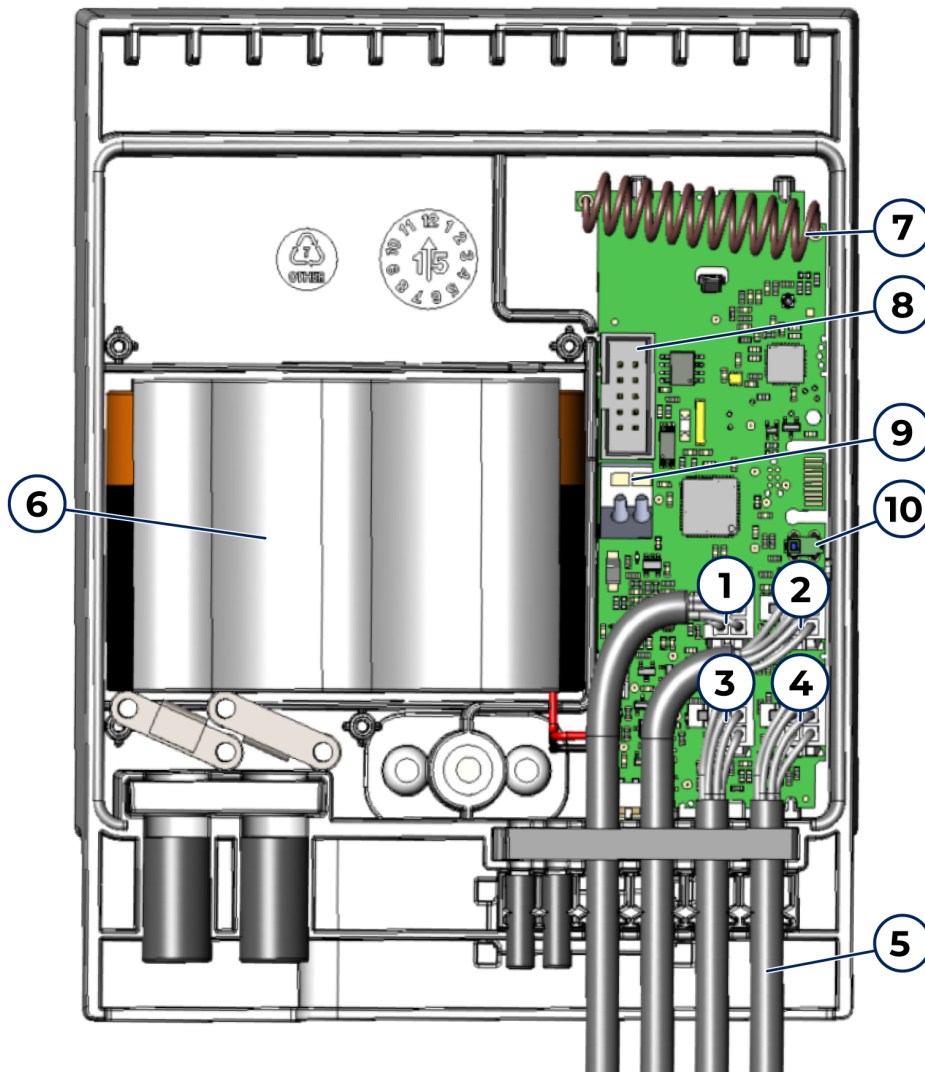

Figure 2: Installing cables to the household unit EVH-RB
2. Install the cables in the order shown in Figure 2.